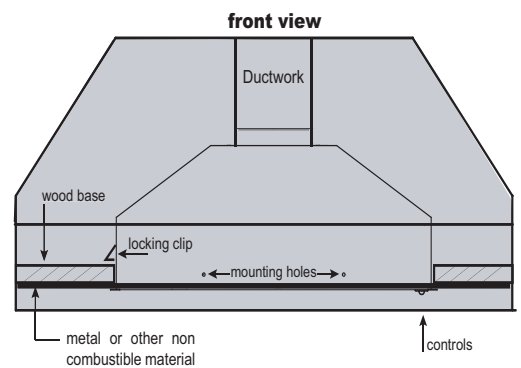

FIG 2
3. Lift Power Pack into opening and ensure locking clip has locked into position. (locking clip is located on left side of Power Pack. **FIG 2**